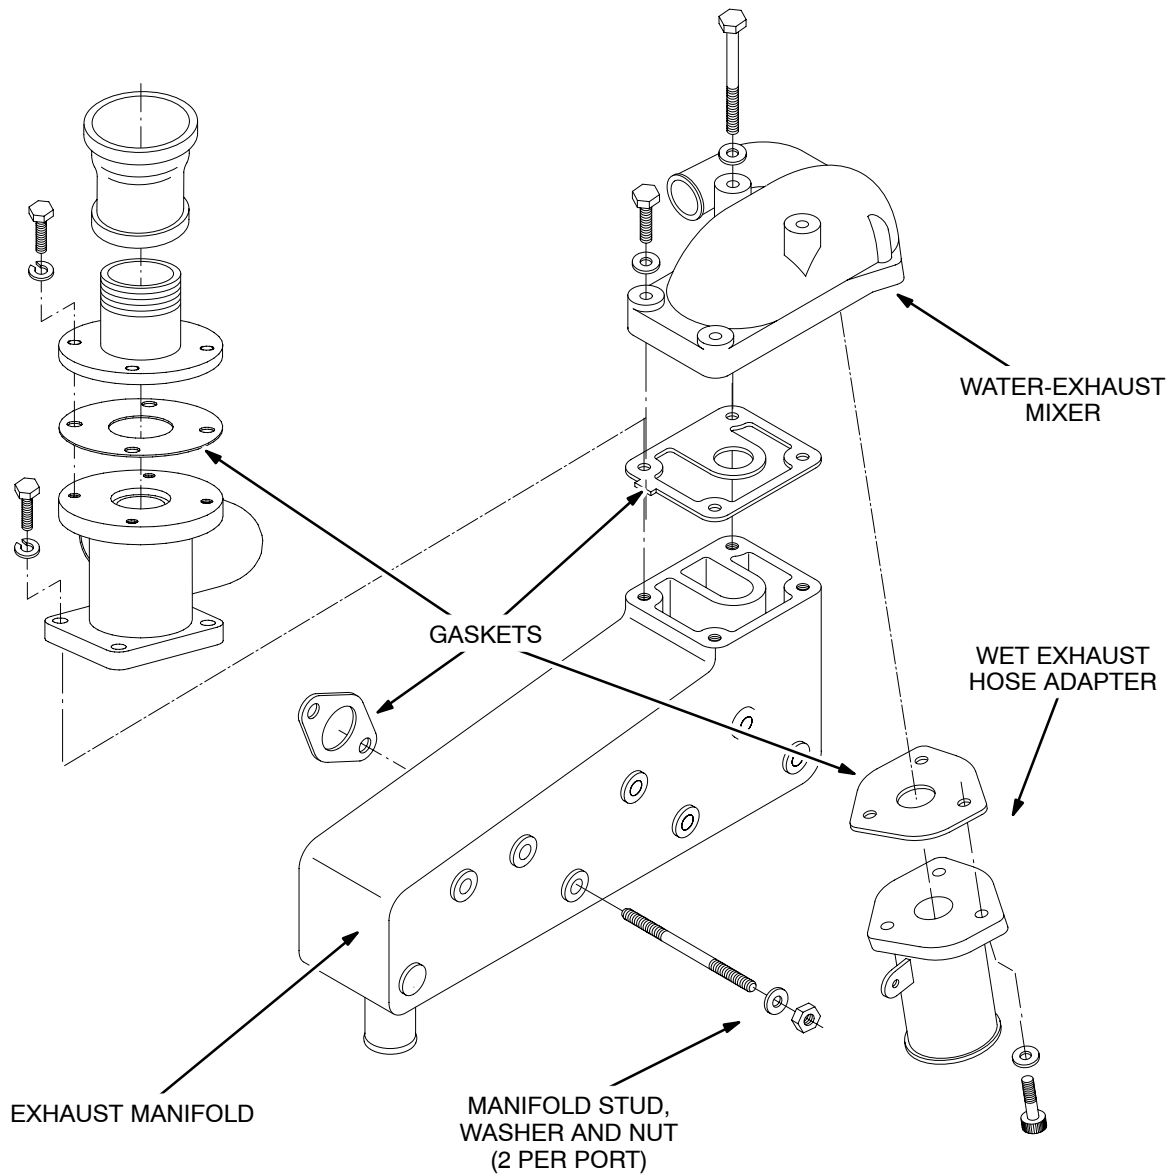

FIGURE 6-2. TYPICAL EXHAUST MANIFOLD—MDKBP, MDKBR, MDKBS
MDK BP, MDK BR, MDK BS: (Figure 6-2) Use new manifold and mixer gaskets when reassembling. Torque the manifold nuts (2 per port) and mixer or dry exhaust flange bolts (4) to 16-23 lb-ft (21-32 N-m). Torque the wet exhaust hose adapter flange bolts (3) to 6.4-9.6 lb-ft (8.7-13.0 N-m).